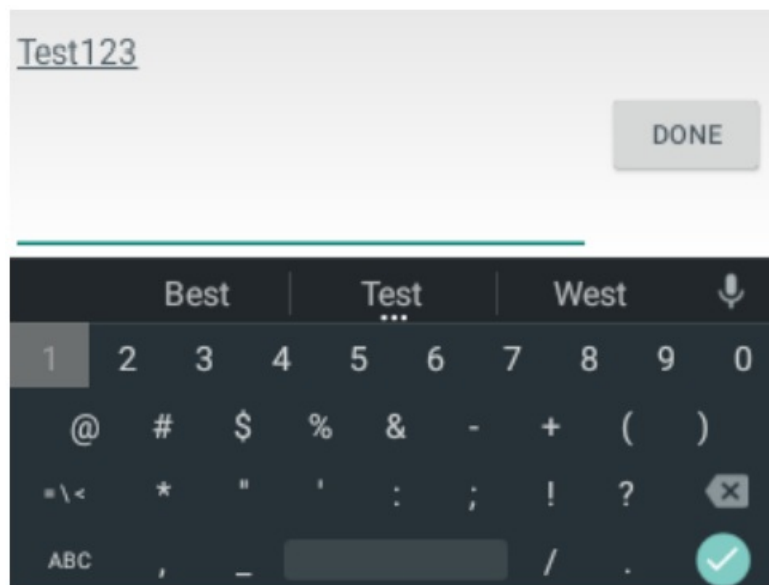

Fig. 20
6. Tap “Scan” and enter the controller serial number in the next window (Fig. 20), then tap or “DONE”.